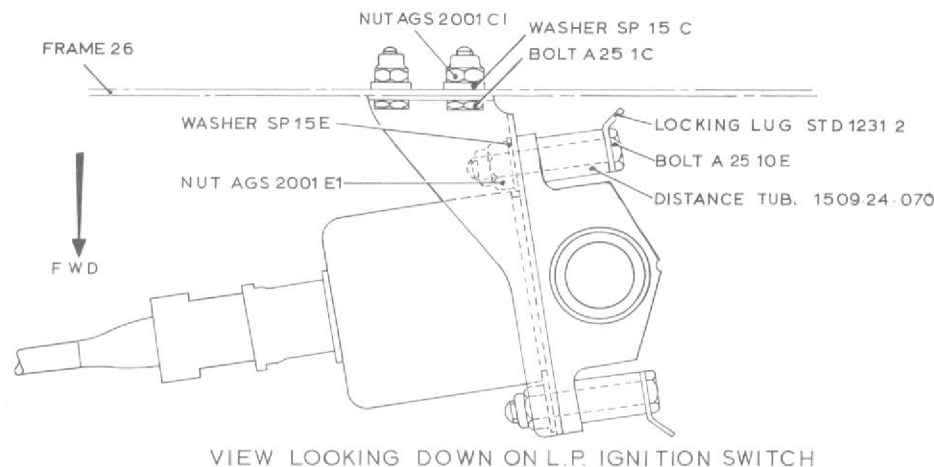

Fig.5 L.p. ignition switch installation
(2) Remove the locking wires and disconnect the fuel pipes from the switch. Slacken other ends of pipes and move clear.
(3) Remove two bolts, etc. securing the switch to the mounting bracket.
(4) Apply an air pressure of 70 lbf/in2, then release the pressure.
(5) Repeat (4) four times.
(6) Apply a gradually increasing air pressure and check that the circuit is broken between pins A and B and made between pins A and C, at between 40 and 45 lbf/in2.
(7) Decrease the pressure to 20 lbf/in2; check that continuity is restored between pins A and B, then release the pressure and remove the test equipment.
(8) Fit the switch to the mounting bracket as shown on fig.5.
(9) Re-connect fuel pipes, tighten and wire-lock connections with stainless steel locking wire.
(10) Re-connect electrical cable.
(11) Prime the system as detailed in para. 9 and check for leaks.
24. (1) Remove the dust cap from the electrical connection then, using insulation tester, Table I item 1, check that the resistance between each plug pin and the frame and between pins A and C is not less than 5 megohms.